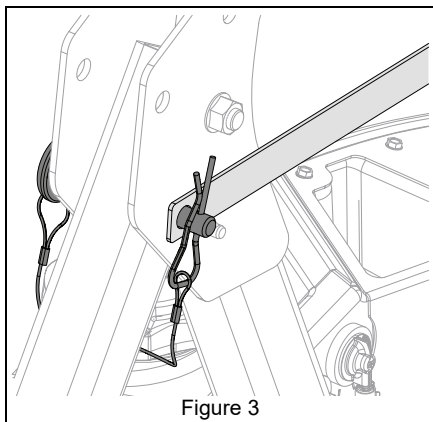

Figure 3
5. Remove hairpin from ROPS lock pin and disconnect seat brace. Reinstall hairpin. See Figure 3.